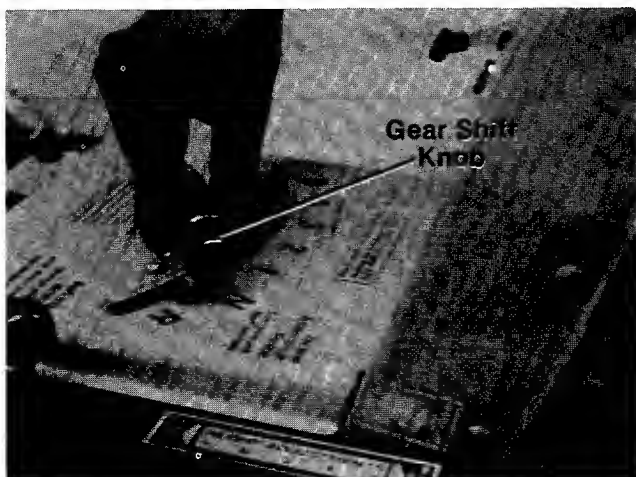

FIGURE 6.
1. Place gear shift lever in the "neutral" position. Unscrew the gear shift knob. See figure 6.